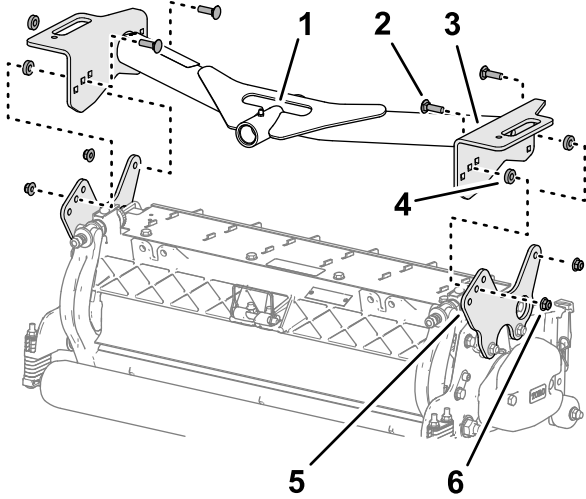

Figure 19
- Align the hole in the plates rear-carrier frame with the hole in the cutting unit mounting plates (Figure 19)
- Align the holes in the plates of the front-carrier frame with the holes in the cutting unit mounting plates (Figure 19).
- Align a spacer between the carrier plate and mounting plate (Figure 19), and loosely assemble the plates and spacer with a carriage bolt (3/8 x 1-1/4 inches) and flange locknut (3/8 inch).